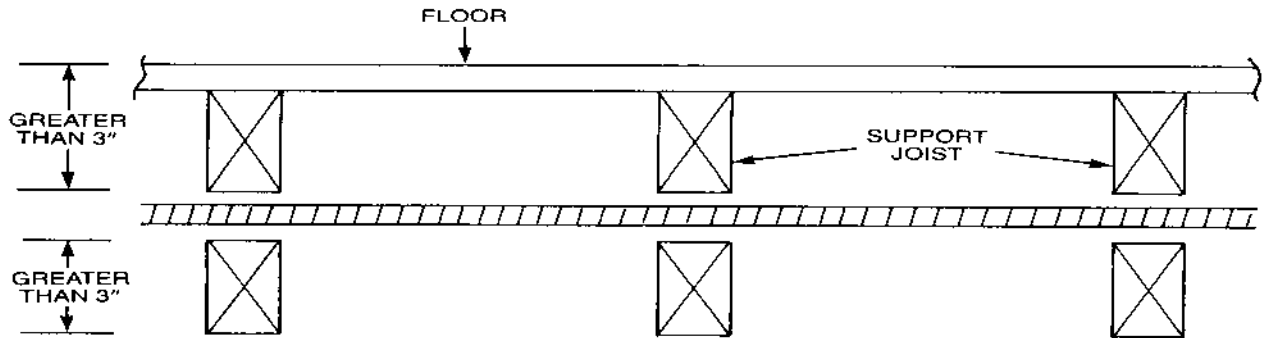

Figure: 4-22
a. Where the tubing is supported more than 3 inches from any outside edge of a stud, joist, plate, etc. or wall surface. Figure: 4-22.